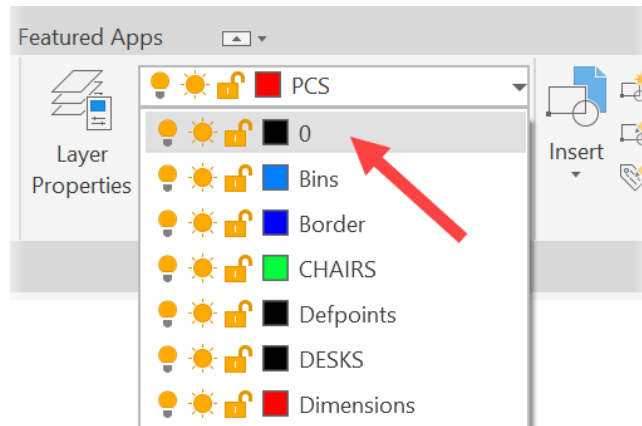

Figure 10.4: The layer drop-down menu with layer 0 (zero) indicated
3. With all the now-exploded objects selected, go to the layer drop-down menu on the **Layers** panel and select layer **0** (*zero*). It is always at the top of the layer list as it is the AutoCAD default layer, as shown in *Figure 10.4*.